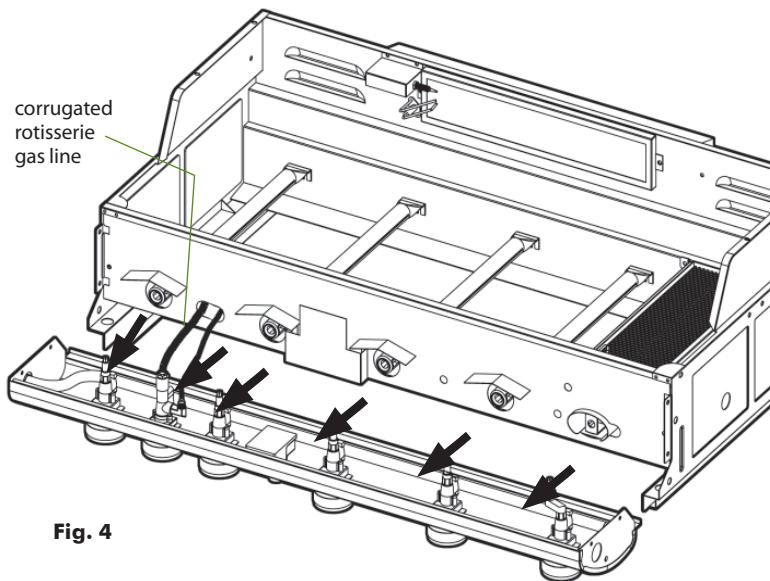
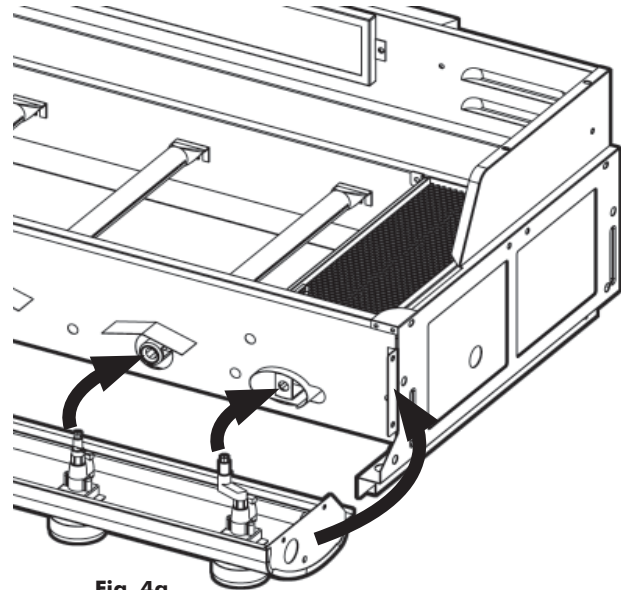

Fig. 4
Fig. 4a
**NOTE:** After checking the connections and fittings in Figure 4, replace the control panel in the same manner as it was removed. Take special care to be sure the valve ends are inserted into the openings in the burner ends as shown in Figure 4a. Be sure not to over bend or kink the corrugated rotisserie gas line. If all valve ends do not immediately align with the burner end openings, starting at one end, grasp the tube burner inside the firebox and gently move it until the valve seats in the open end. Also note that the end caps of the control panel skin fit to the outside of the flanges on the firebox as shown in Figure 4a.